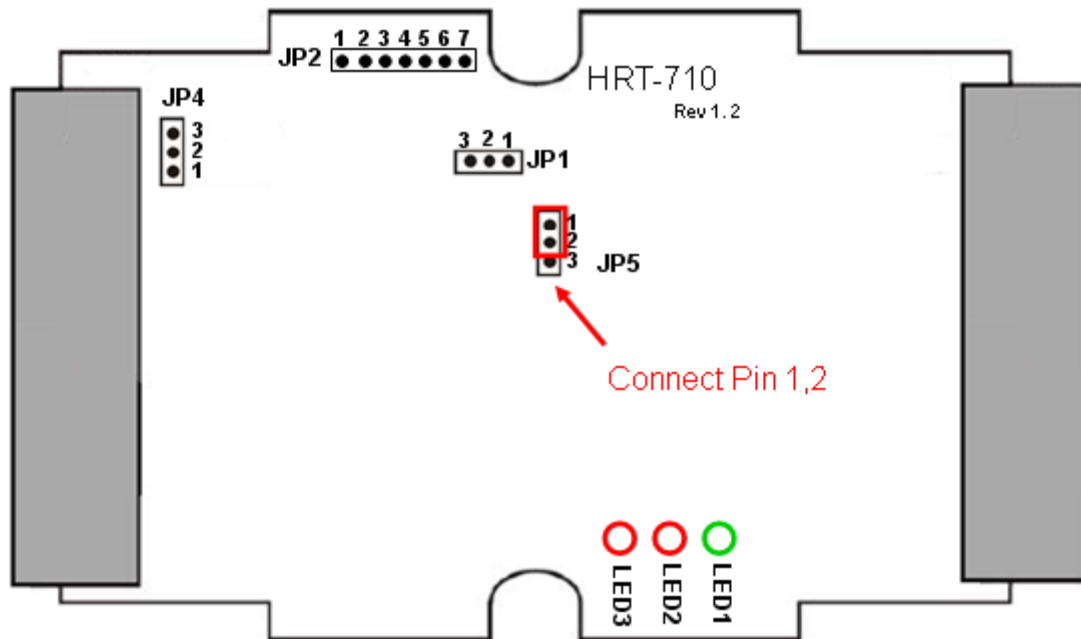

Figure 4-4 Connect pin 1 & 2 of JP5 together
(5) Turn off the power and connect the pin 1 & 2 of JP5 together like Figure 4-4.